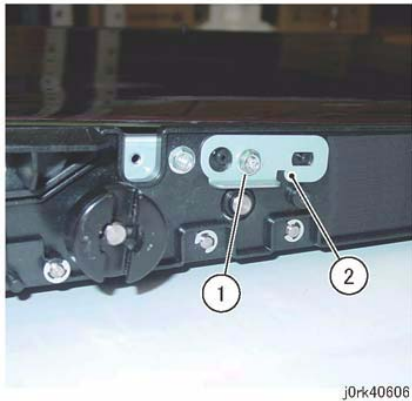

Figure 4 Tension Plate Removal
6. Remove the Tension Plate. (Figure 4)